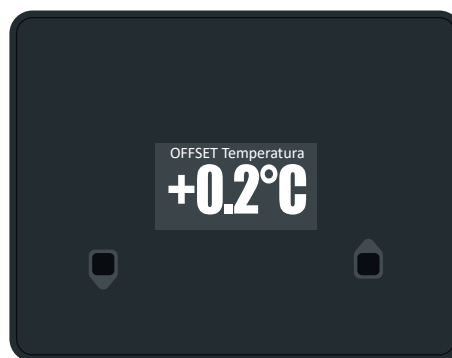

Fig. 5
- 5 Once the item to be modified has been identified, press the UP or DOWN button to change the size of the interested value (Fig. 5, 6, 7 and 8).